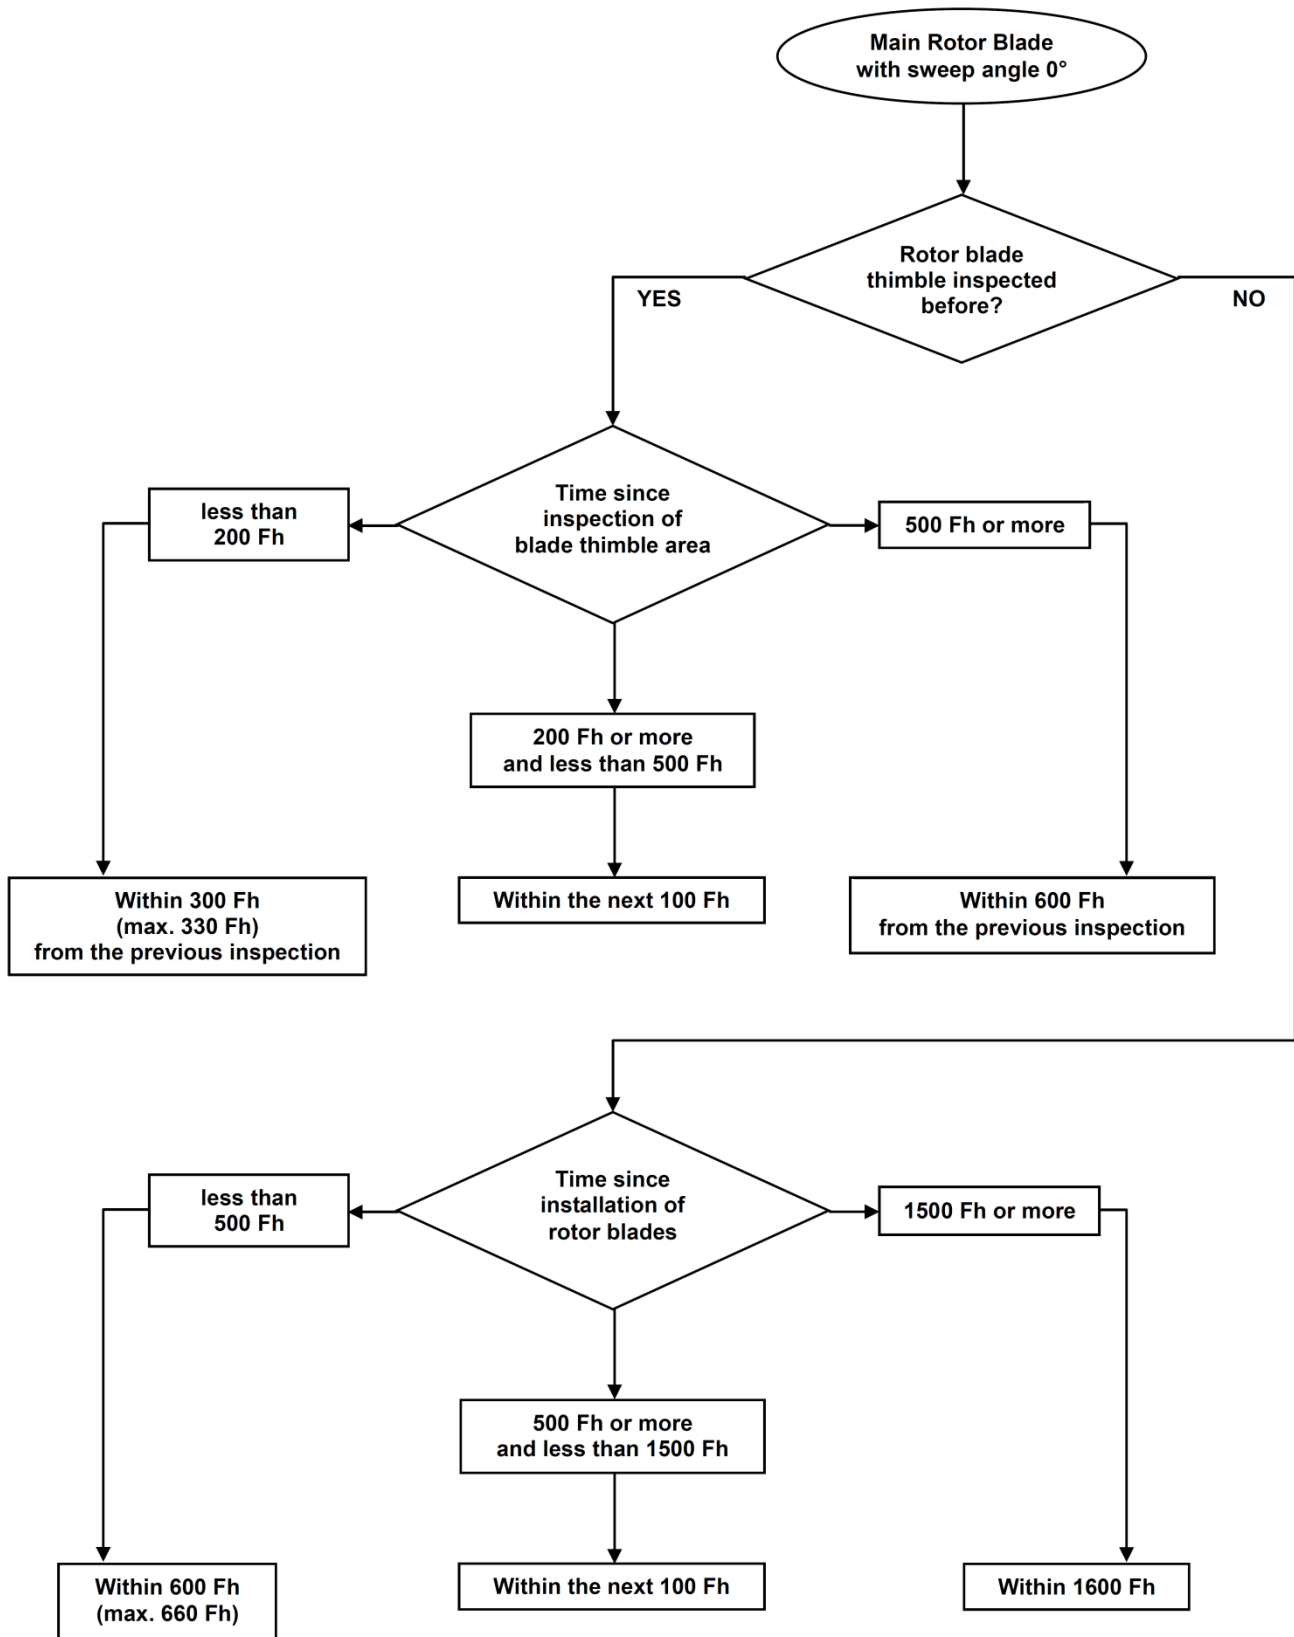

Figure 2 Determination of Initial Inspection Time (Blade with Sweep Angle 0°)
- (d) If the configuration of main rotor blade is sweep angle 0°, use the flow chart in Figure 2 to determine the Fh until the initial inspection of the blade thimble.